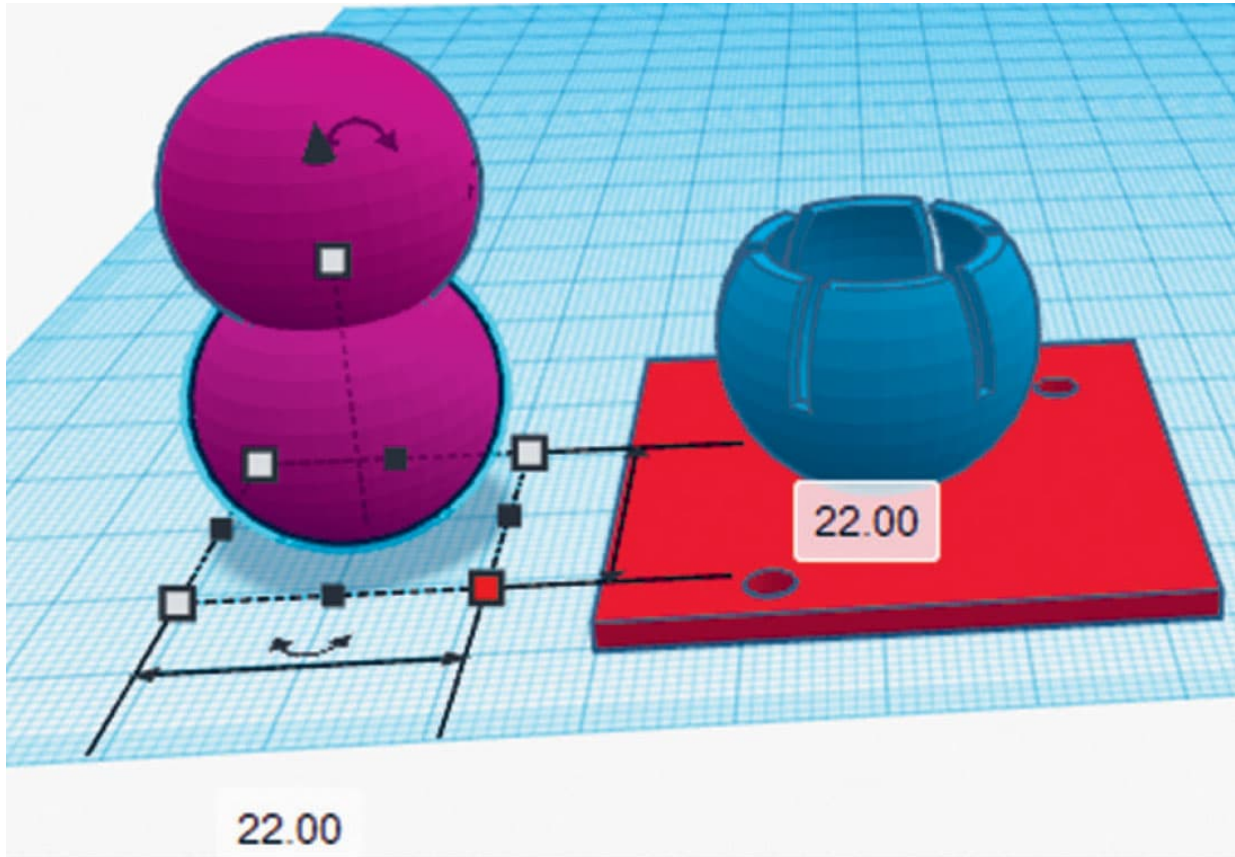

FIG. 1: Create a model of the shoulder using a ball-and-socket joint.
1. Create the shoulder joint. The shoulder joint is modeled using the ball-and-socket joint we created in Lab 15 (shown here). The socket inner diameter is 23 mm and the ball is 22 mm diameter in fig. 1.
3. The elbow joint can be modeled using the same ball-and-socket joint we used for the shoulder joint in step 1. We can simply make a copy of it and resize to fit the smaller end of the upper arm as shown in fig. 1. The inner diameter of the elbow joint socket is 18 mm. The diameter of the elbow joint ball is 17 mm.